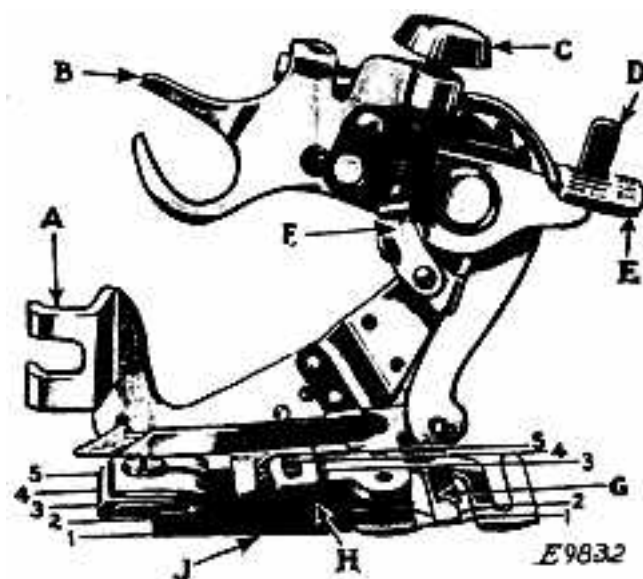
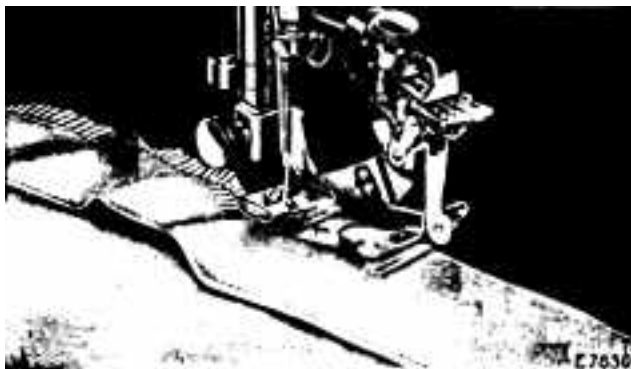
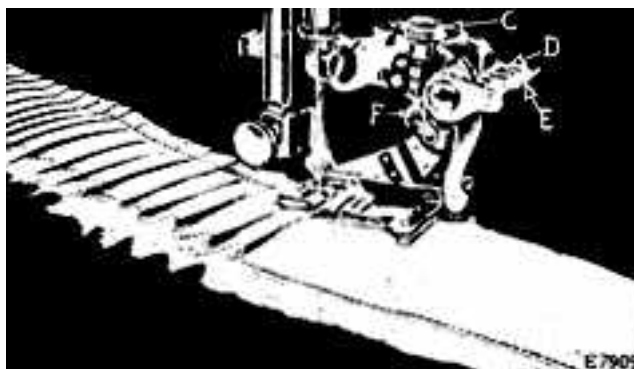

FIG. 26. THE RUFFLER AND ITS PARTS
FIG. 28.
FIG. 31.
Lines 1, 2, 3, 4 and 5 shown in Fig. 26 indicate where the material is to be placed for various operations, as follows:
Refer to Fig. 26 when inserting the material in the ruffler.
(SEE: REFERENCES IN Fig. 26)
Raise the needle bar to its highest point and remove the presser foot. Attach the ruffler foot, (A, Fig. 26) to the presser bar by means of the thumb screw, at the same time placing the fork arm (B, Fig. 26) astride the needle clamp as shown in Fig. 27.
Raise the adjusting lever (E, Fig. 27) and move it to the left so that the projection (D, Fig. 27) will enter the slot marked "1" in the adjusting lever (E) when the lever is released. The ruffling blade will then move forward and back once at every stitch. Insert the material to be ruffled between the two blue blades, following the line 2 in Fig. 26. Draw the material slightly back of the needle, lower the presser bar and commence to sew.
Insert the material to be ruffled between the two blue blades, as shown in Fig. 28, following the line 2, in Fig. 26. Place the garment to which the ruffle is to be attached, under the separator blade, following the line 1, in Fig. 26. Proceed the same as for gathering.
Insert the material to be ruffled between the two blue blades, following the line 2, in Fig, 26.. Place the garment to which the ruffle is to be attached, under the separator blade, following the line 1, in Fig. 26. Place the material for the facing over the upper blue blade, as shown in Fig. 29, following the line 3, in Fig. 26. The facing may be straight or bias material. If the facing is to be on the right side of the garment, place the garment and the ruffle so that the wrong sides are together. If the facing is to be on the wrong side, place the right sides of the garment and the
Insert the material to be ruffled between the two blue blades, following the line 2, in Fig. 26. This material must not be over 1 1/4 inches wide, as it is carried through the ruffler with the finished edge of the ruffle to the right of the attachment as shown in Fig. 30
The material for piping must measure about 1/4 inch wide when folded in the centre and is usually cut on the bias. Place the piping material in the ruffler, following the line 4, in Fig. 26, with the folded edge of the piping to the right. The material to which the piping and ruffling are to be sewn should be folded on the edge and inserted in the ruffler, following the line 5, in Fig. 26.
Raise the adjusting lever (E, Fig. 31) and move it to the right so that the projection (D, Fig. 31) will enter the slot marked "6" in the adjusting lever when the lever is released. The ruffling blade will then move forward and back once at every six stitches. To adjust the ruffling blade to make a plait once at every twelve stitches, place the adjusting lever (E, Fig. 31) so that the projection (D) enters the slot marked "12" in the adjusting lever. Insert the material to be plaited between the two blue blades, following the line 2, (Fig. 26). The size or width of plaits is regulated by the adjusting screw (C, Fig. 31) and the adjusting finger (F, Fig. 31). To make a wider plait, move the adjusting finger (F) back or toward the needle and turn the adjusting screw (C) downwardly. To make a smaller plait, turn the adjusting screw (C) upwardly. The distance between plaits is regulated by the length of stitch.